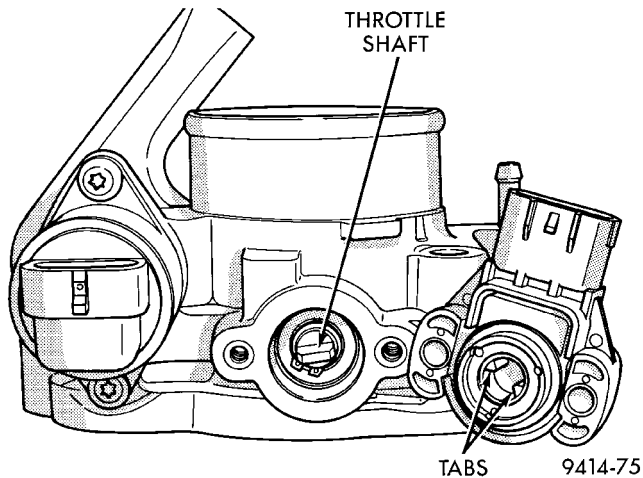

Fig. 93 Throttle Position Sensor Installation
(1) The throttle shaft end of the throttle body slides into a socket in the TPS (Fig. 93). The socket has two tabs inside it. The throttle shaft rests against the tabs. When indexed correctly, the TPS can rotate clockwise a few degrees to line up the mounting screw holes with the screw holes in the throttle body. The TPS has slight tension when rotated into position. If it is difficult to rotate the TPS into position, install the sensor with the throttle shaft on the other side of the tabs in the socket. Tighten mounting screws to 2 N·m (17 in. lbs.) torque.